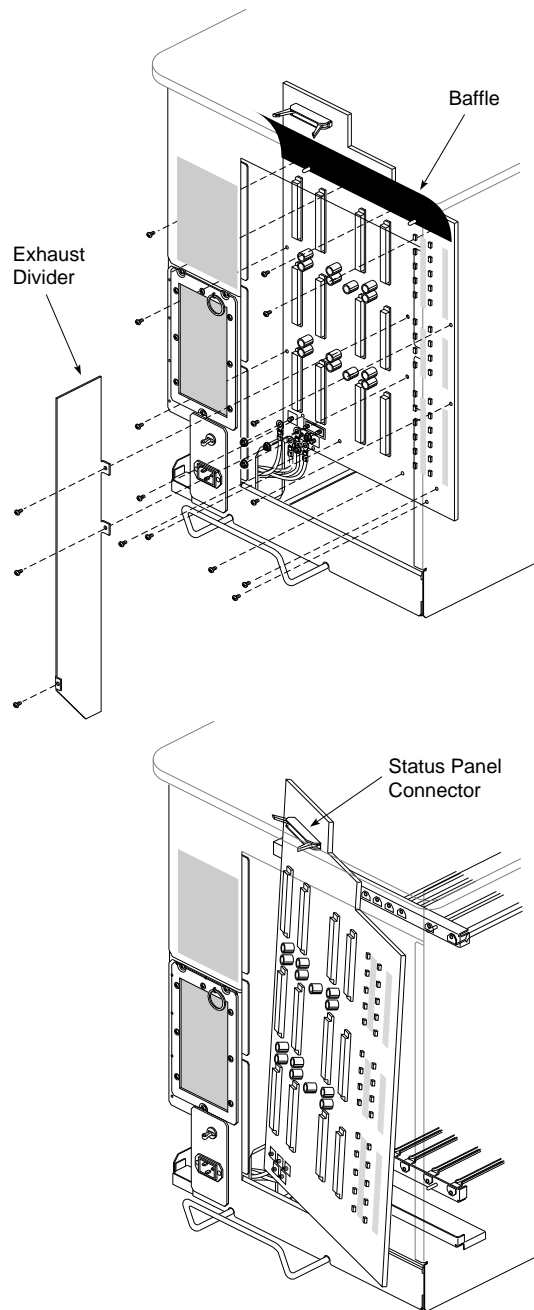

Figure 5-80 Removing the Backplane
To remove the backplane, see Figure 5-80 and follow these steps.
6. Remove the exhaust divider (P/N 040-0395-xxx) by removing three screws (see Figure 5-80). Two screws secure the middle of the divider to the backplane. The third screw can be found near the bottom of the chassis.
8. Remove the black plastic baffle by prying up the bottom with your fingers (see Figure 5-80). The bottom of the baffle mounts onto two metal pins near the top of the backplane. The baffle covers the status panel connector located near the top left-hand corner of the backplane.